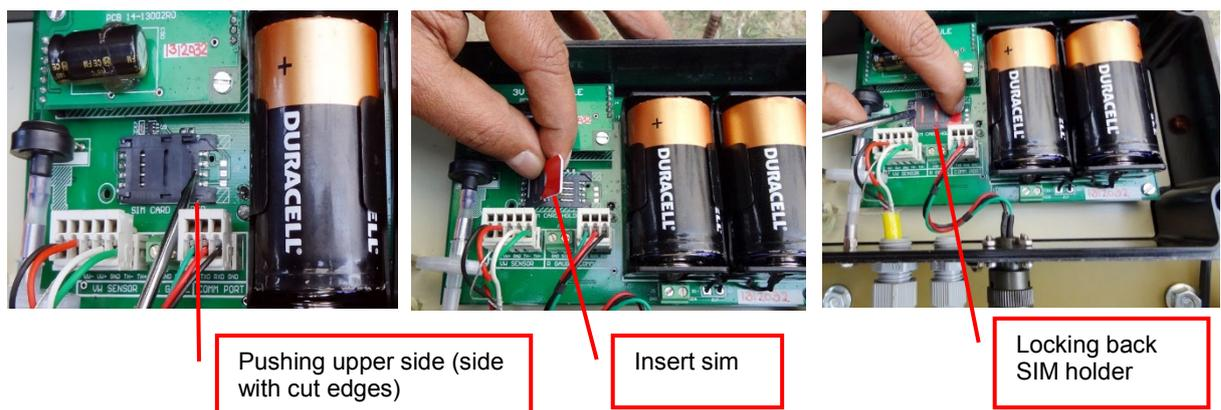

Figure 9-12: Inserting SIM
- 9.6.24 For mounting the datalogger, four mounting clamps are provided on the datalogger. The center to center distance of mounting holes is 90 mm (h) and 275 mm (w). Refer to figure 9-12.